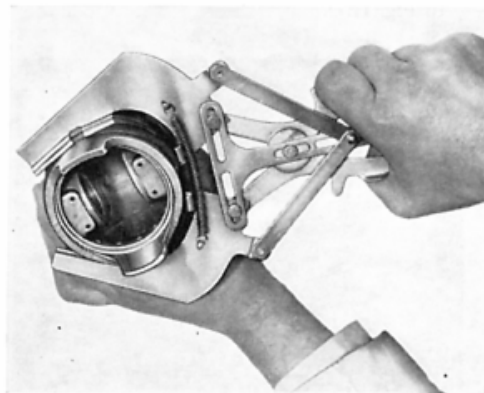

Fig. H.3.
1. Remove piston rings from each piston, using a suitable piston ring tool. Fig. H.3.
NOTE: All the rings quoted above except the laminated type may be fitted by means of an expanding tool of the type shown in Fig. H.3.